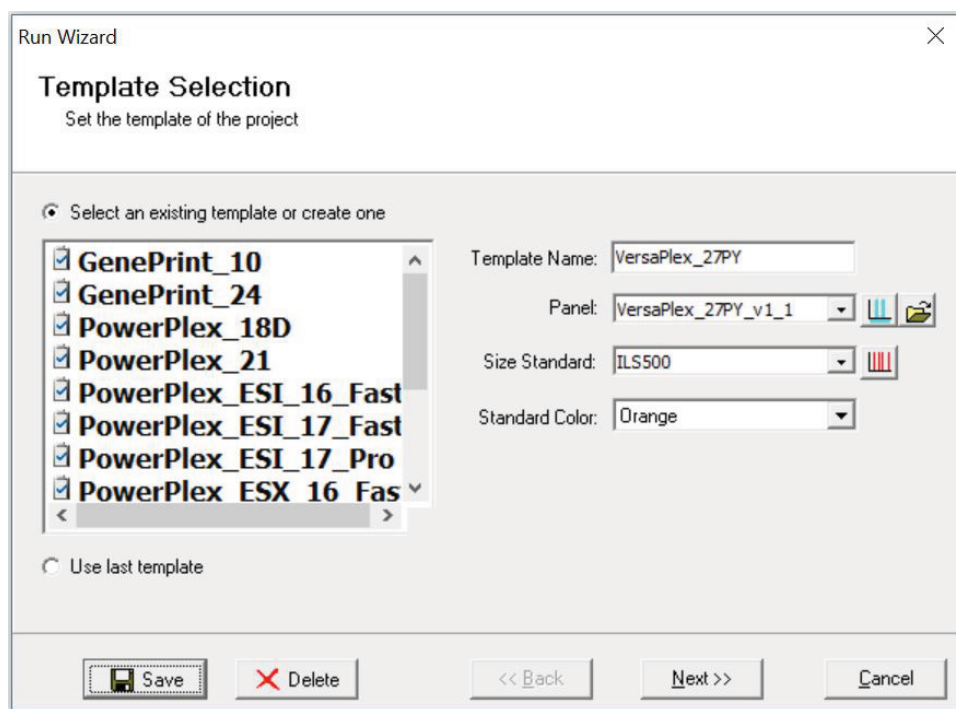

Figure 29. The 'Template Selection' window.
8. Select **Run** in the Magic Wizard or choose the **Run Project** icon (green arrow) in the toolbar. The 'Template Selection' screen will appear (Figure 29).